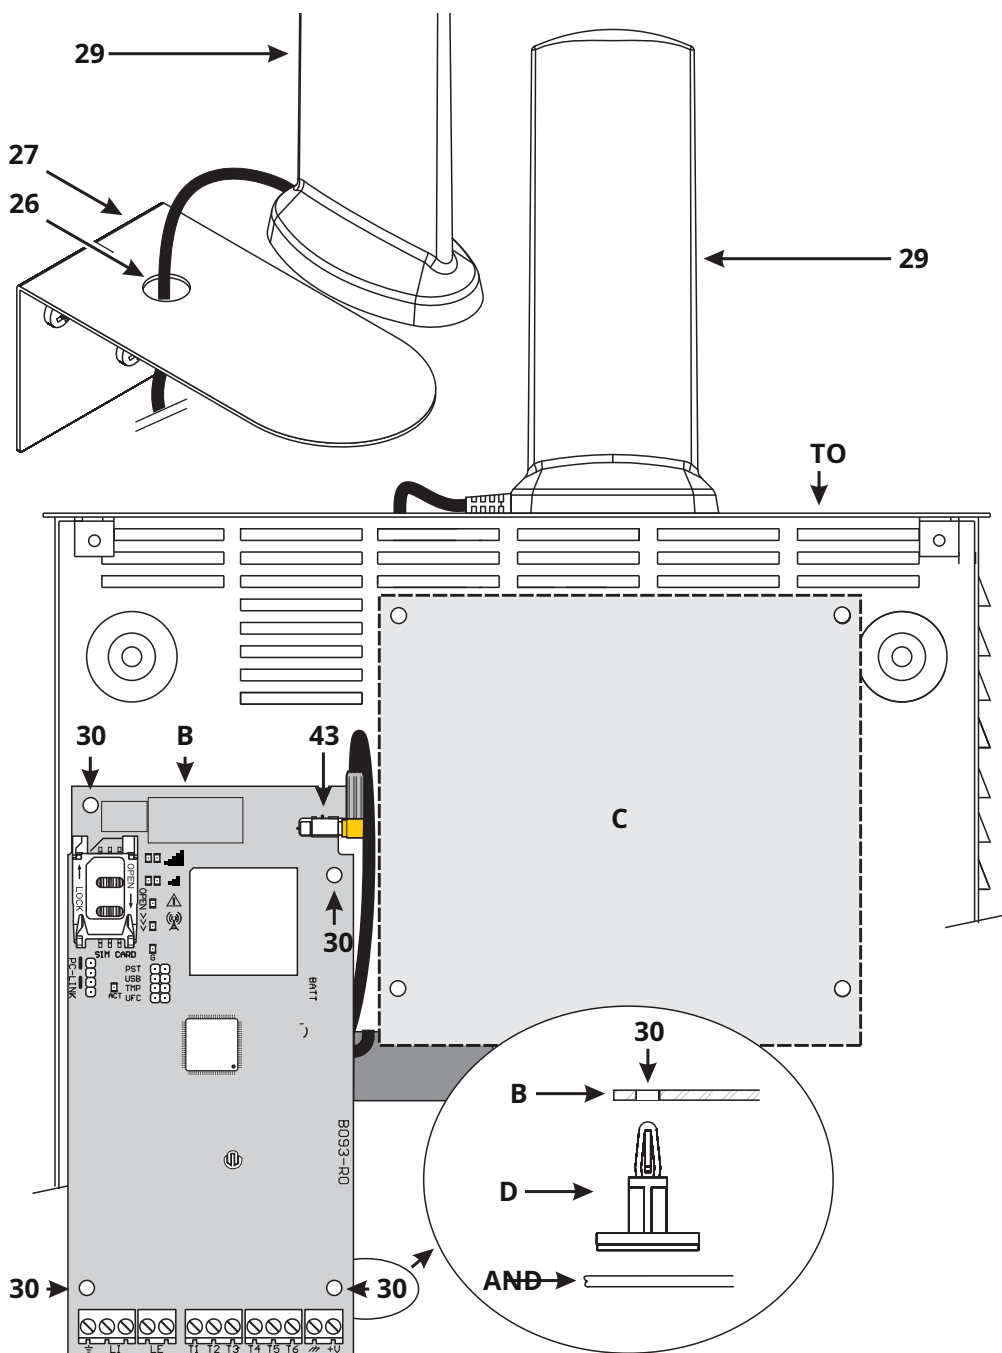

Figure 3 - Installing the communicator kit:**TO**)metal housing;**B**)communicator card;**C**)panel motherboard;**D**)adhesive plastic support;**AND**)metal housing base.
To install the kit version, proceed as follows and shown in Figure 3.
3. Insert the four adhesive plastic supports provided into the holes **30** of the communicator, as shown in Figure 3.